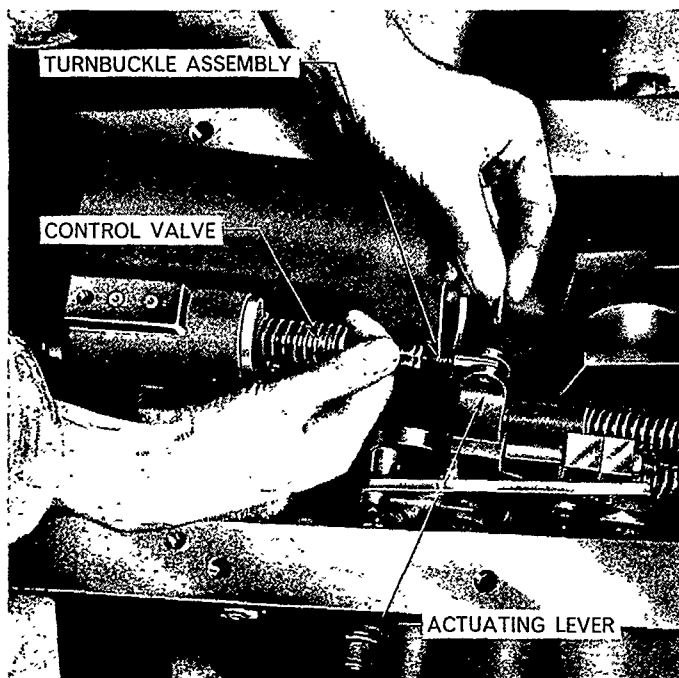

Figure 77
15. Insert the round head of the turnbuckle assembly into the end of the control valve, securing the opposite end of the turnbuckle to the control valve actuating lever with a clevis pin and cotter pin, Figure 77.